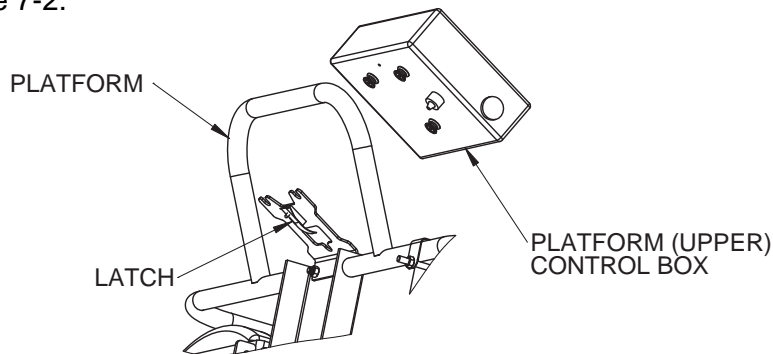

Figure 7-2. Remove Platform (Upper) Control Box.
- Remove the platform (upper) control box from the platform by releasing the **LATCH** on the back of the control box; take the platform (upper) control box to the ground (lower) control station. Refer to Figure 7-2.